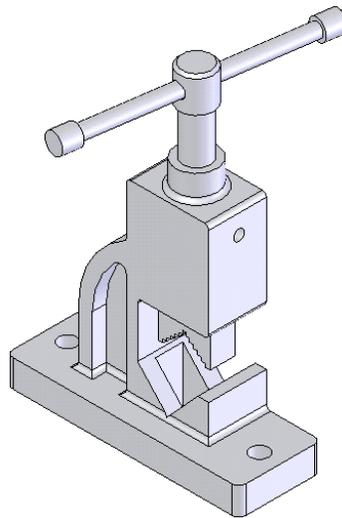

Figure 10-81 Final pipe vice assembly
- e. Place the other components in the assembly and apply the required mates to the assembly, refer to Figure 10-81.
Similarly, assemble the other components of Pipe Vice. Figure 10-81 shows the final pipe vice assembly.